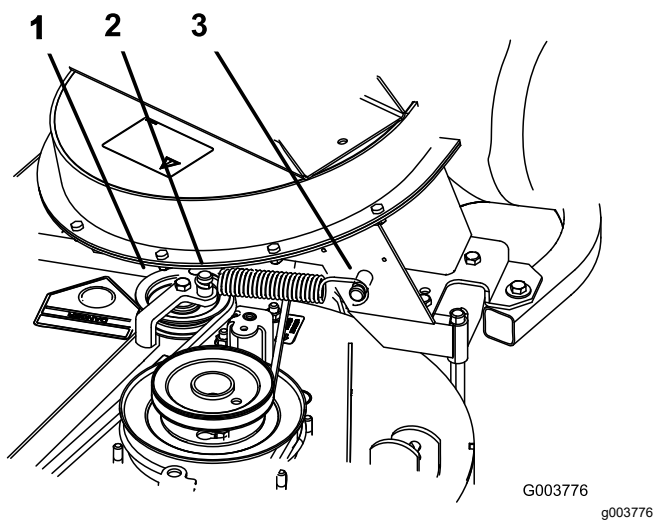

Figure 42
8. Install the spring as shown in Figure 42.